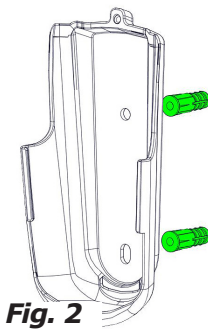

Fig. 2
- Position bracket on wall so top/bottom bracket holes align with anchors (Fig. 2).